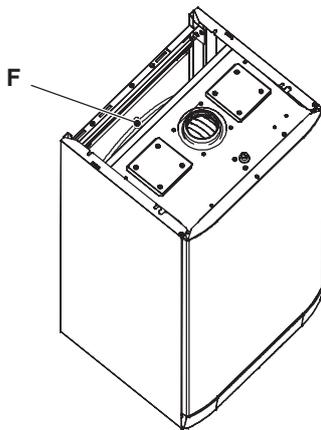

Figure 13.1 Rear view of the boiler
- 2 Remove the protective cap F (Figure 13.1) from the valve on the top of the expansion vessel and connect a suitable air pressure gauge.